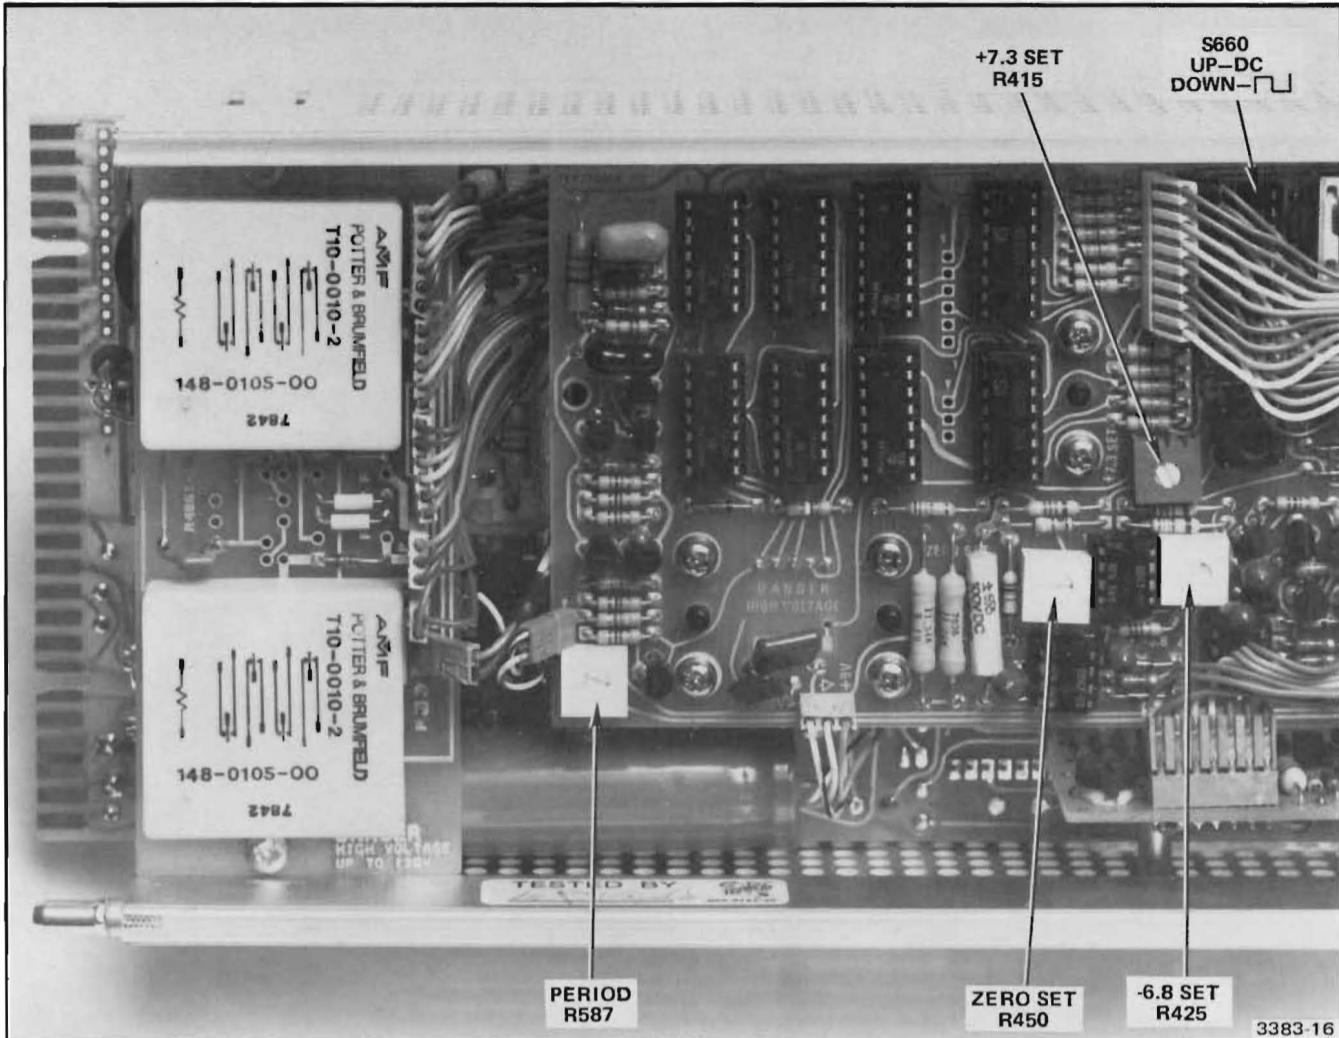

Fig. 4-6. Adjustment locations for the A2 DVM/Period circuit board.
DC— (S660)	DC (up) Refer to Fig. 4-6.
- d. Adjust—Zero Set (R450) for a 0.0% reading. Refer to Fig. 4-6.
- g. Adjust—6.8 Set (R425) for a 6.8 reading. Refer to Fig. 4-6.
- j. Adjust—+7.3 Set (R415) for a 7.3 reading. Refer to Fig. 4-6.